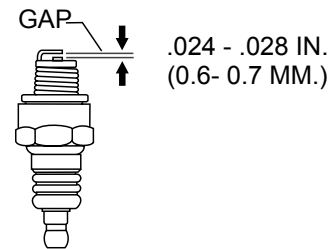

Figure 20. Spark Plug Gap Adjustment
5. Measure the spark plug electrode gap (Figure 20) with a wire-type feeler gauge. If needed, adjust the gap to 0.7 - 0.8 mm (0.028 - 0.031 in), by carefully bending the side electrode.